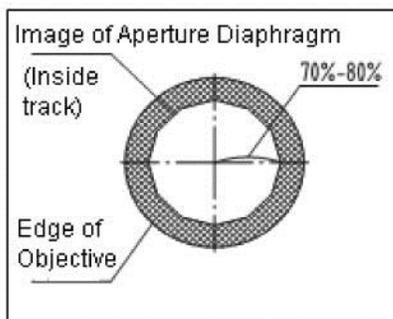

Fig. 29
As the contrast is usually low, adjust the condenser aperture diaphragm to 70-80% of the objective N.A. being used. If necessary, remove the eyepiece to observe through the eyepiece tube. Adjust the aperture diaphragm adjustment ring ① to adjust proportion until you see the image (Fig. 29).